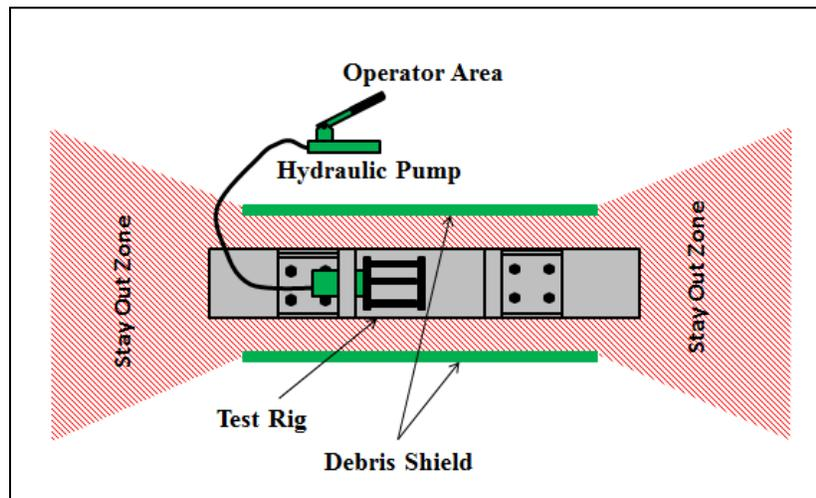

Figure 1: Set-up
The recommended location for this testing is inside of the Johnson Research Center on the UAH campus. The test setup will mirror the image shown in Figure 1. This location provides a secured/controlled access area. For all testing, personnel must be behind specified protective barriers.
- Setup 'Debris Shield' per Figure 1.